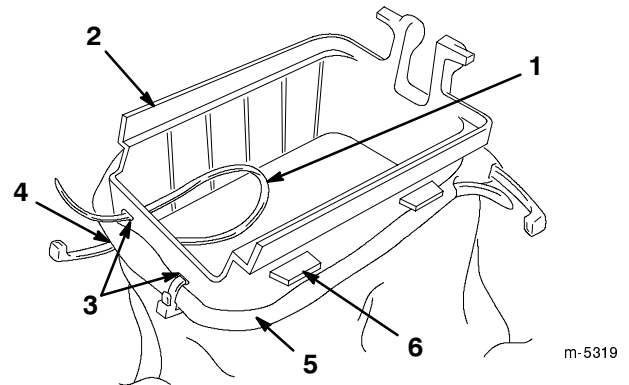

Figure 2
3. Insert the large cable tie in the bag collar (Fig. 2).